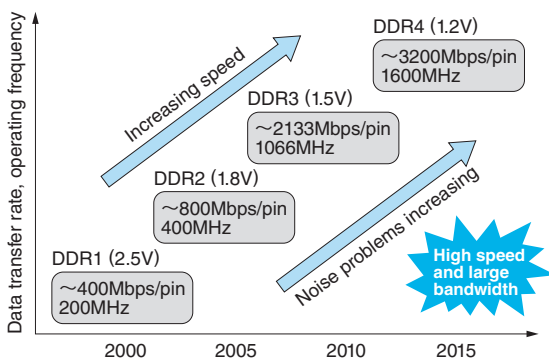
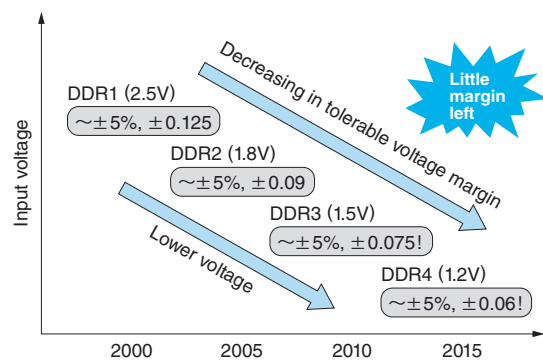

Fig. 1 Issues Due to High Speed
Fig. 2 Issues Due to Low Voltage
Due to the higher speed of the interface like a Double Data Rate (DDR) memory, it has become difficult to accurately transmit signals from the driver to the receiver of the Integrated Circuit (IC) (see Fig. 1). In addition, the allowable noise margin of the power supply has been reduced as a result of ever-improving high performance and low-voltage tendency for the high-speed digital ICs (see Fig. 2). Nowadays, utilizing the conventional design approach based on past experiences and intuition